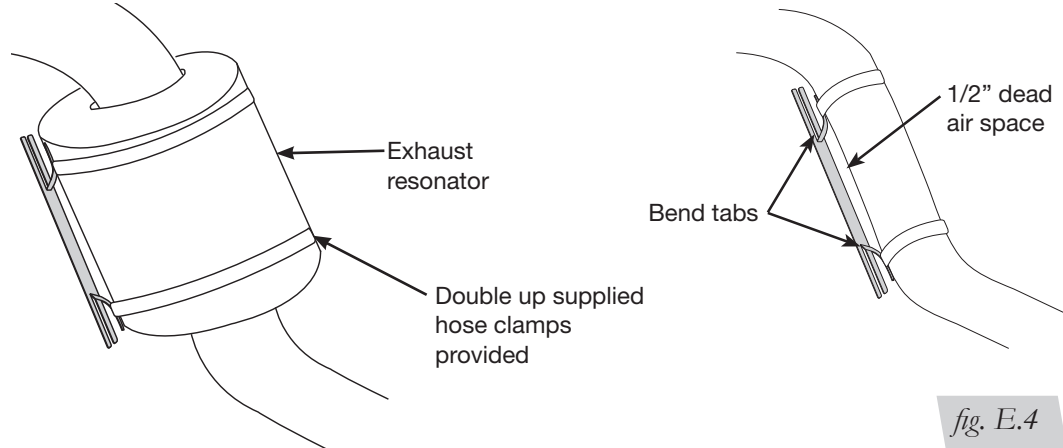

fig. E.4
1. Bend tabs to provide a dead air space between exhaust pipe and heat shield. (Fig. E.4)
Some vehicles have large resonators in this area; it will be necessary to double up on the clamps to fit these models (Fig. E.4).